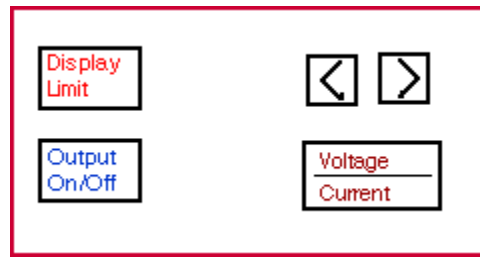

Figure 8: Front panel selections
3. Enable the outputs by pressing the **Output On/OFF** key (see Figure 8) The CV and +6V annunciators will be on to indicate that the power supply operates in the *constant voltage* mode and that the +6V display is selected. The display is in the *meter* mode, i.e. the display shows the actual output voltage and current.